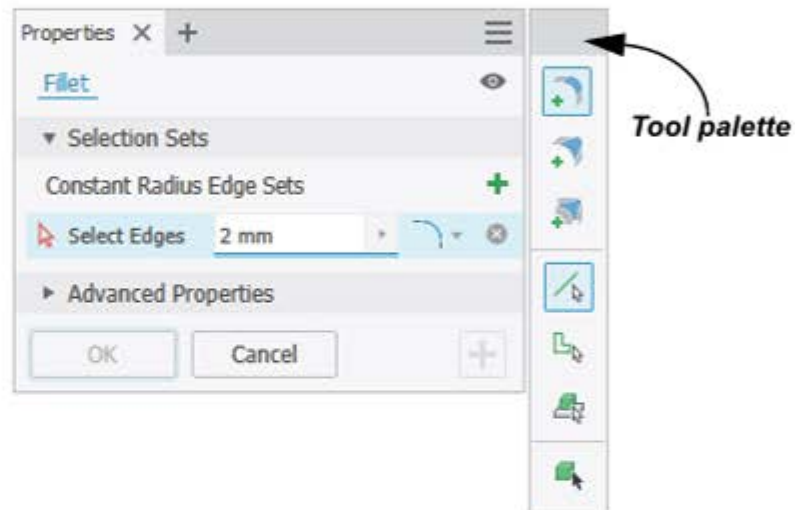

Figure 6–84
2. In the fillet Tool palette, shown in Figure 6–84, which option enables you to fillet all of the edges of a feature?